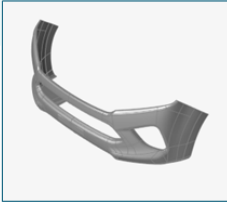

Figure 5 - Mechanical and Eco-Design Evaluation of an Automotive Bumper
At the component level, having streamlined processes at your fingertips for analyzing product performance allows for more comprehensive decisions. To cater to this requirement, we developed a custom eco-design evaluation dashboard using Inspire Python APIs, which helps select the best material for any part based on two parameters: maximum stiffness and least carbon footprint (Figure 5). The CAD files are uploaded to Inspire with a shortlist of materials selected. In this case, the shortlisted materials for the bumper include acrylonitrile butadiene styrene (ABS), polycarbonate (PC), and polypropylene (PP). The chart shows a comparison of automotive parts based on material data including mass, carbon footprint, and global warming potential. When the carbon footprint analysis runs, it’s determined that polycarbonate performs the best based on a lower carbon footprint value (4.490 kg CO₂/kg). Simultaneously, our revolutionary meshless solution, Altair SimSolid, enables a seamless CAD to simulation transition – running a modal analysis quickly to evaluate the natural frequency of the structure in a matter of seconds. Comparing both the results, we can summarize that polycarbonate is both the most environmentally sustainable and structurally sound material.